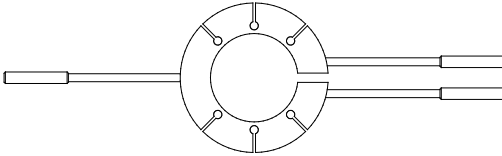

Fig. 10.23
**Thermo rings** are simple slotted rings made from solid aluminium with thermal insulated handles (fig. 10.23).